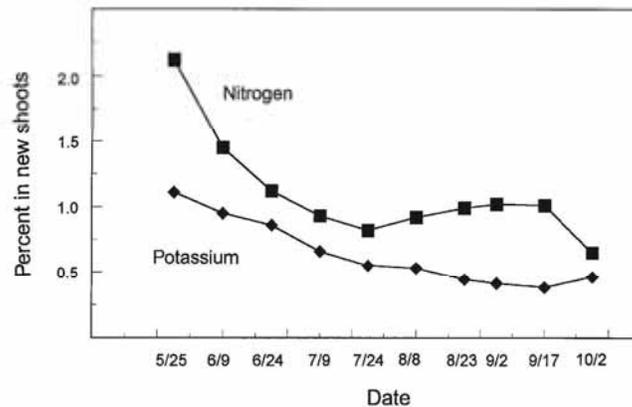

Figure 1.—Nitrogen and potassium percent in new shoot tips of “Early Black” cranberries in Massachusetts, 1988 (DeMoranville, 1992).
The change in nitrogen (N) and potassium (K) concentration in new shoots of Massachusetts “Early Black” cranberries during the 1988 growing season is illustrated in Figure 1. Tissue concentration changes rapidly early in the growing season. Compare the late August–early September sample results to samples collected between May 25 and June 24.
Figure 1 also illustrates the danger in collecting late September samples. Nitrogen concentrations decrease as plants enter dormancy, so these samples may not give an accurate picture of the situation in a bed.